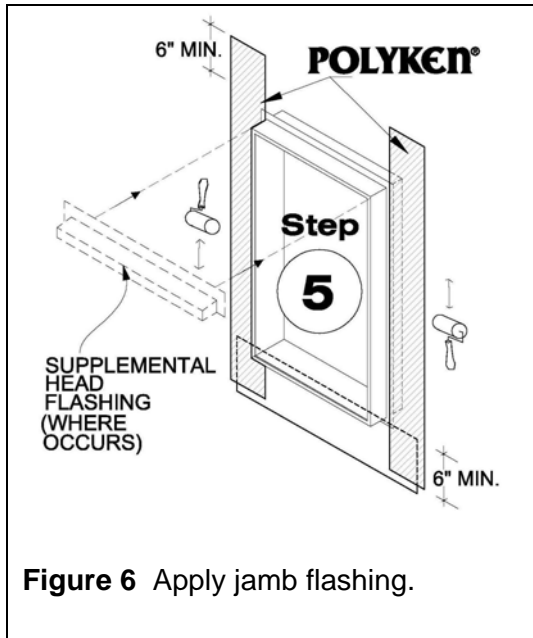

Figure 6 Apply jamb flashing.
Step 5. Precut Polyken® or Nashua® jamb flashing tape to extend a minimum of 6” above and below the rough opening. Peel off release liner and adhere Polyken® or Nashua® jamb flashing over the jamb fins and over top of Polyken® or Nashua® sill flashing (see Figure 6).